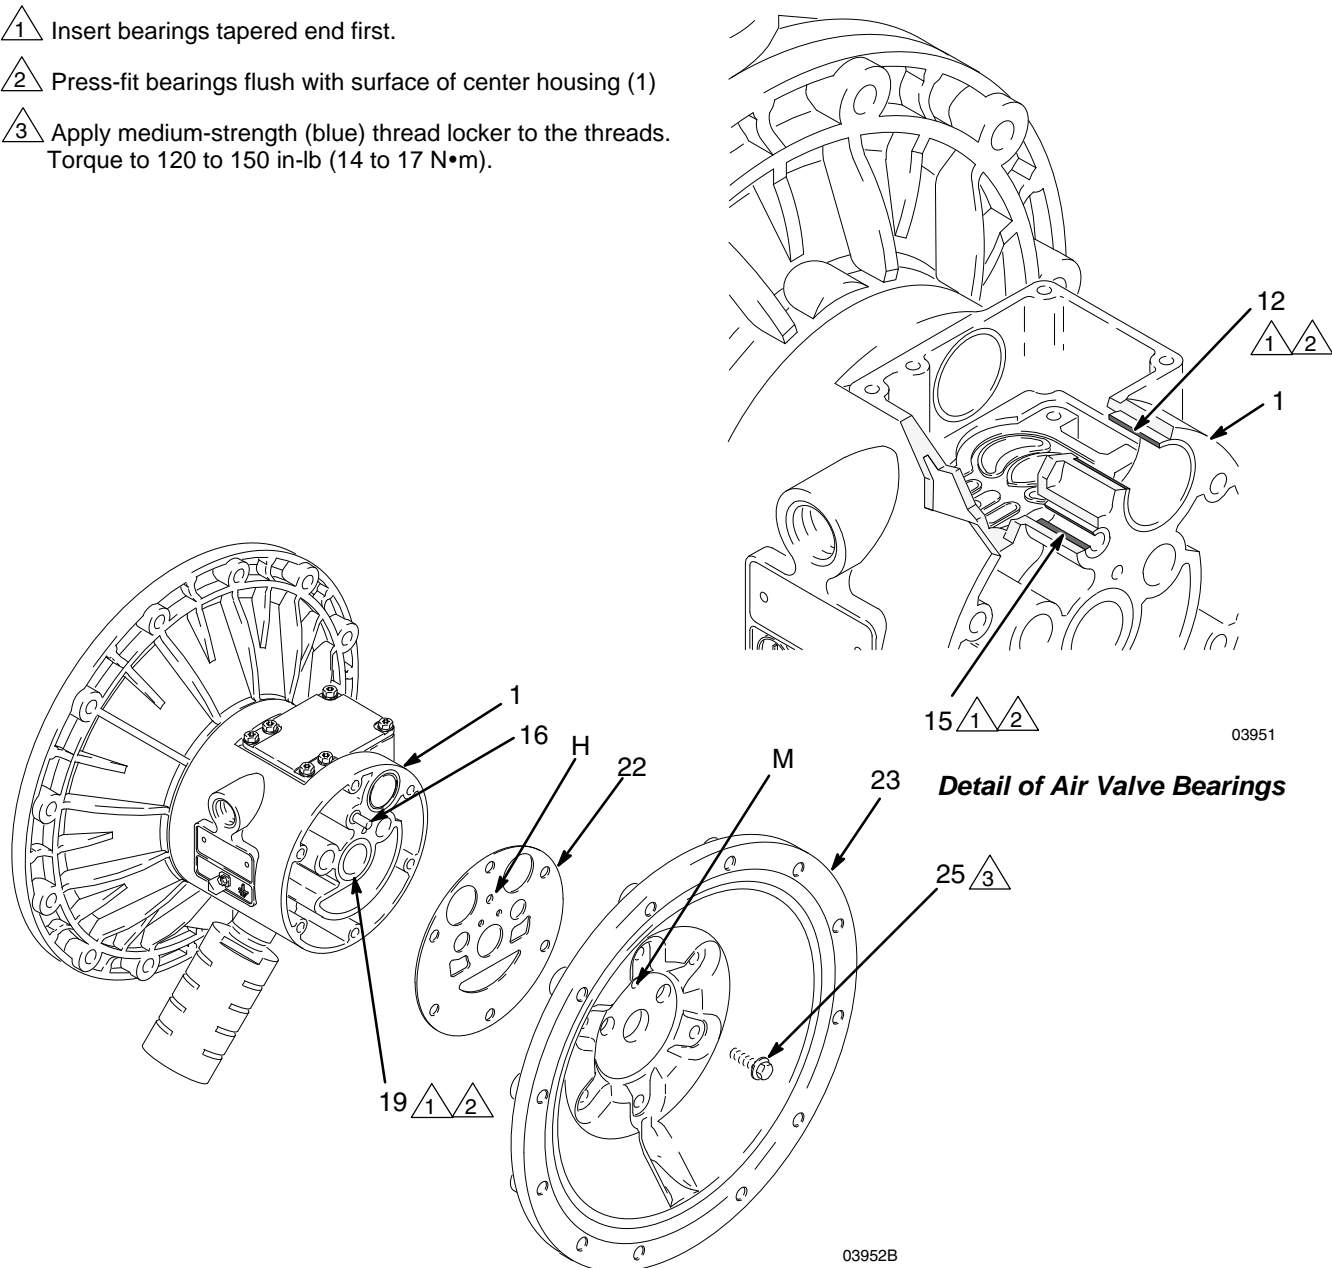

FIG. 13
**NOTE:** If you are removing only the diaphragm shaft bearing (19), skip step 4.
5. Using a 10 mm socket wrench, remove the screws (25) holding the air covers (23) to the center housing (1). See FIG. 13.
6. Remove the air cover gaskets (22). Always replace the gaskets with new ones.
7. Use a bearing puller to remove the diaphragm shaft bearings (19), air valve bearings (12) or pilot pin bearings (15). Do not remove undamaged bearings.
1. If removed, install the shaft u-cup packings (402) so the lips face **out** of the housing (1).
2. The bearings (19, 12, and 15) are tapered and can only be installed one way. Insert the bearings into the center housing (1), **tapered end first**. Using a press or a block and rubber mallet, press-fit the bearing so it is flush with the surface of the center housing.
4. Align the new air cover gasket (22) so the pilot pin (16) protruding from the center housing (1) fits through the proper hole (H) in the gasket.
5. Align the air cover (23) so the pilot pin (16) fits in the middle hole (M) of the three small holes near the center of the cover. Install the screws (25), handtight. See FIG. 13. Using a 10 mm socket wrench, torque the screws oppositely and evenly to 120 to 150 in-lb (14 to 17 N•m).